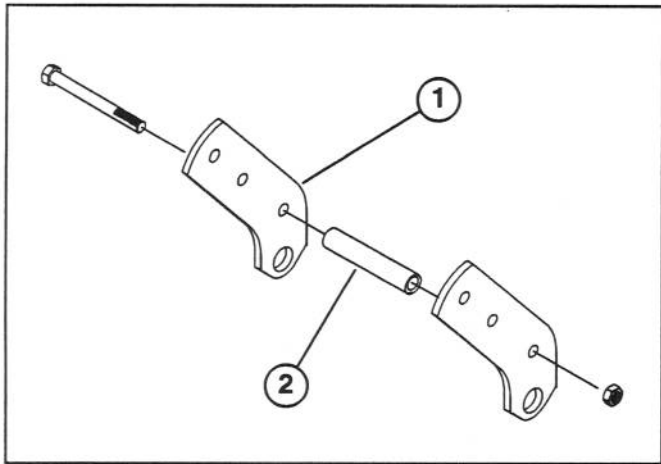

Figure 3
3. Loosely assemble higher rear pivot plates together with a pivot tube, 3/8-16 x 3-3/4" lg. capscrew and locknut, using holes shown in figure 3.